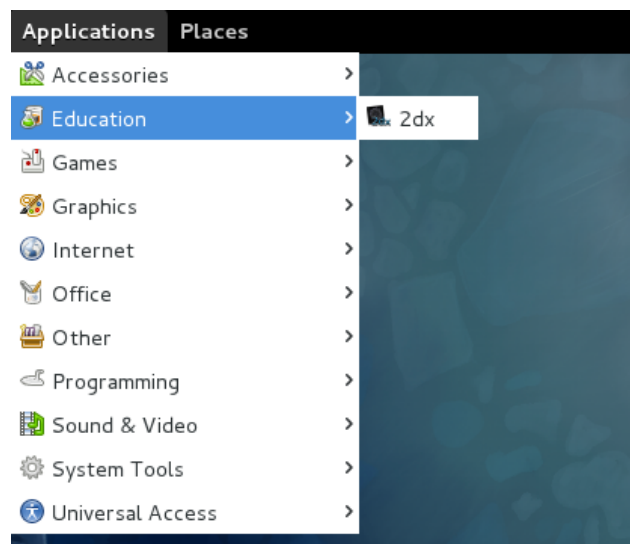

Figure 12: Launching `2dx` on Fedora
4. After the successful installation you will find a `2dx`-icon under the "education" menubar as shown in Figure 12.